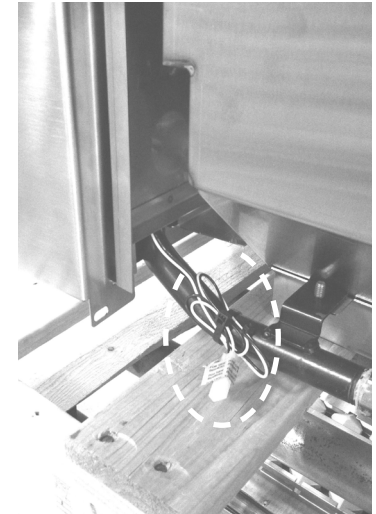

Fig. 3
- A side burner plug to provide electrical power for side burner is located at the right rear of the front panel. (Fig. 3)